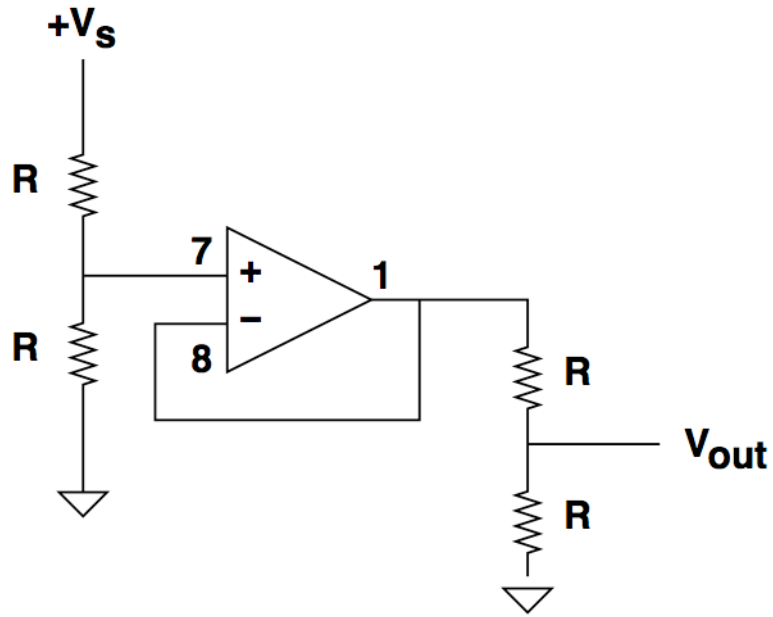

Figure 8: Two-stage, buffered voltage dividers
**Question 5: Use a KA334 as a buffer** Put a buffer in between the two resistive dividers, as shown schematically in Figure 8. **Whichever partner has done the least amount of actual circuit building so far should build this circuit.**